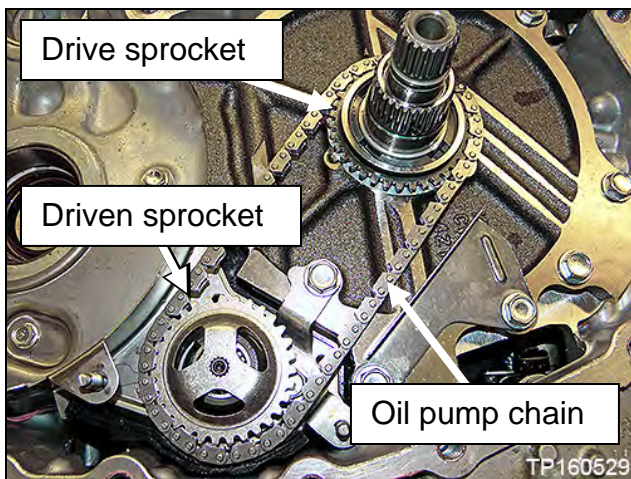

Figure 12C
9. Remove the oil pump chain, driven and drive sprockets as one assembly (Figure 12C).